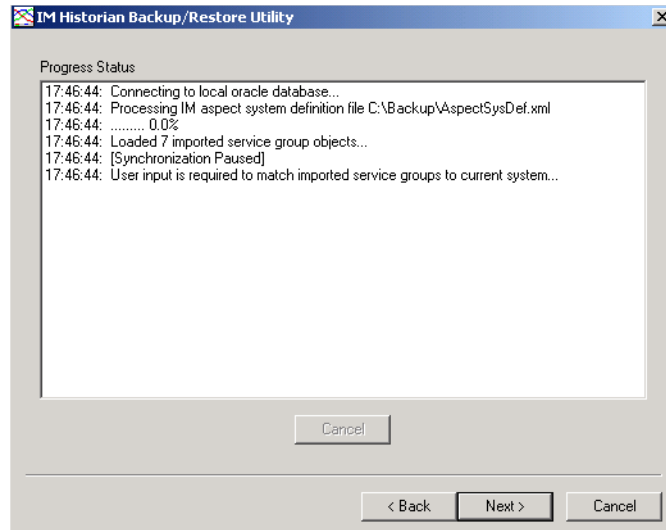

Figure 310. Synchronization Progress Status
3. Enter the mapping specifications if necessary (typically NOT REQUIRED), then click **Next** to continue. This displays the Progress Status, Figure 310.